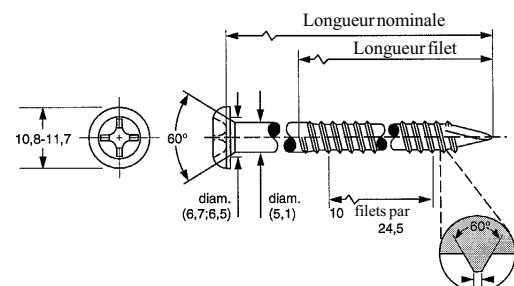

Fig. 3
2.2.9.3 Vis Firestone (fig. 3)